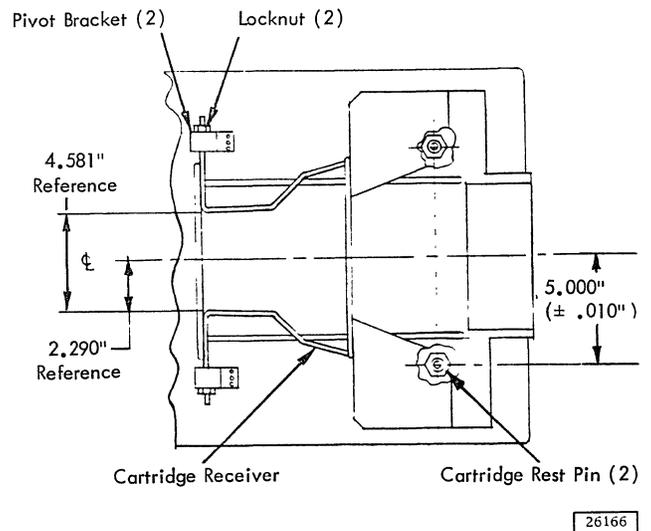

Figure 7-8. Cartridge Receiver Adjustment
### 7.16.1 Cartridge Receiver Removal and Replacement (Figure 7-8)
1. Loosen both self locking nuts located on the pivots of the cartridge receiver so that receiver is free to move slightly in a sidewise direction (Figure 7-8).